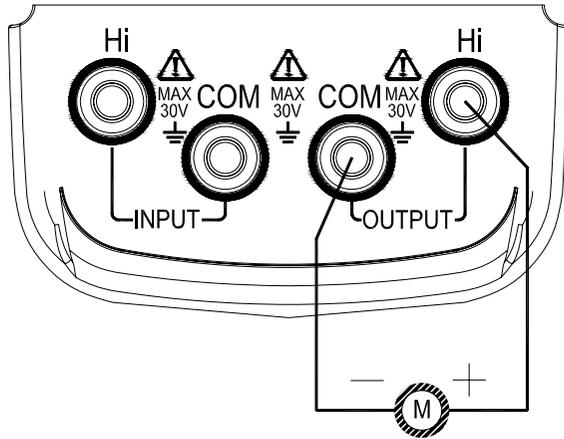

Figure 5-1
1. Insert the testing probe into the jack of the meter's output terminal (OUTPUT), and connect the other end with input terminal of the Users' meter, see Figure 5-1:
1. Insert the testing probe into the jack of the meter's output terminal (OUTPUT) and connect the other end with input terminal of the Users' meter, see Figure 5-1;
3. Press $\{\text{FUN}\}$ key , select thermocouple(TC) function, and display '°C' unit and 'R' graduation no.;